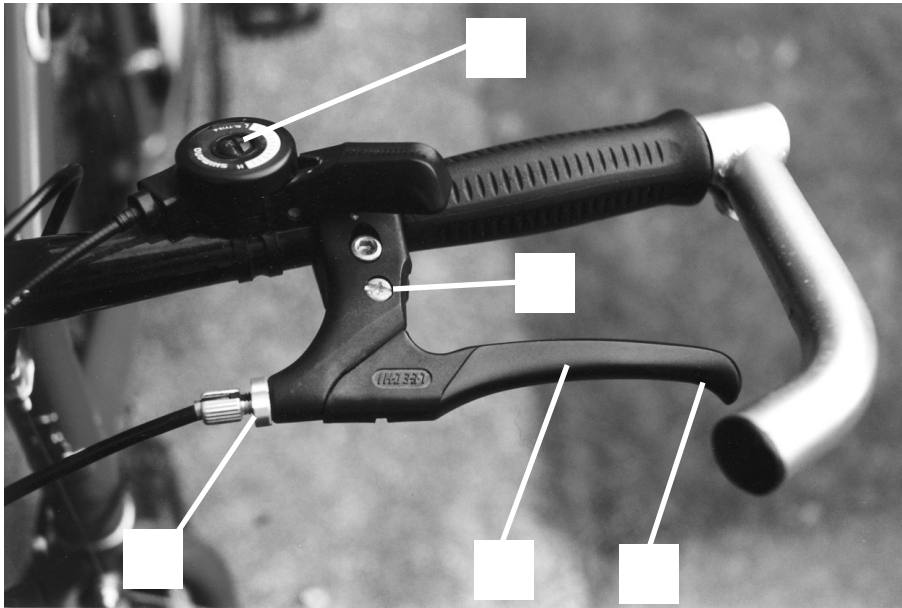

Fig. 9
(c) A brake lever from the bike is shown in Fig. 9.
- (i) Mark **F** for fulcrum in the box on Fig. 9 which is pointing to the fulcrum of the brake lever. [1]